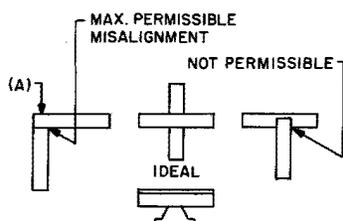

Fig. 7—Contact Alignment
- 4.11 Contact Alignment (S1, S2, and S3 Switches):** The contacts shall line up (Fig. 7) so that the width on the contact surface of each contact bar falls wholly within the length of its mating bar. Gauge by eye.